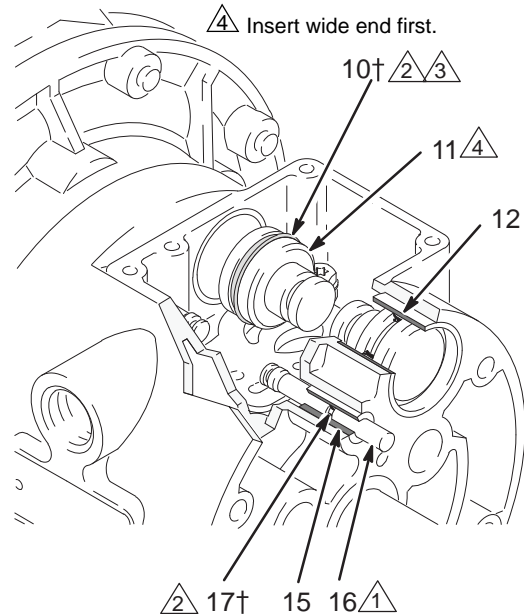

Fig. 10
4. Pull the two actuator pistons (11) out of the bearings (12). Remove the u-cup packings (10) from the pistons. Pull the pilot pins (16) out of the bearings (15). Remove the o-rings (17) from the push pins. See Fig. 10.
6. Inspect the bearings (12, 15) in place. See Fig. 10. The bearings are tapered and, if damaged, must be removed from the outside. This requires disassembly of the fluid section. See page 19.
4. Install an o-ring (17†) on each pilot pin (16). Grease the pins and o-rings. Insert the pins into the bearings (15), **narrow** end first. See Fig. 10.
5. Install a u-cup packing (10†) on each actuator piston (11), so the lips of the packings face the **narrow** end of the pistons. See Fig. 10.
6. Lubricate the u-cup packings (10†) and actuator pistons (11). Insert the actuator pistons in the bearings (12), **wide** end first. Leave the narrow end of the pistons exposed. See Fig. 10.